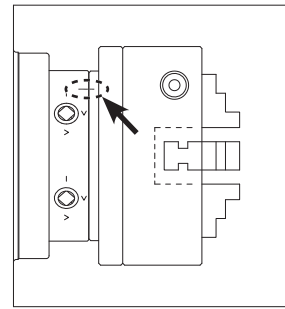

Figure 24. Chuck timing marks aligned.
6. If equipped, align the chuck-to-spindle timing marks (Figure 24), and slide the chuck onto the spindle.